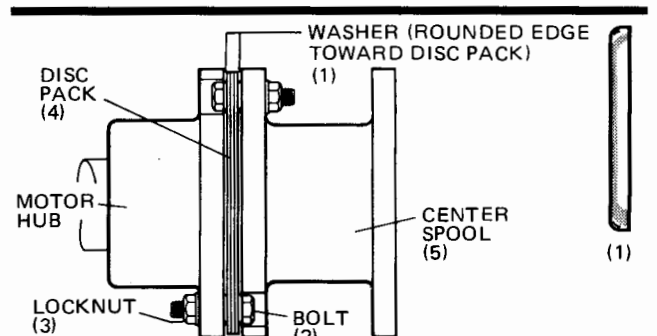

FIG. 6 – DISC PACK ASSEMBLED TO CENTER SPOOL
1. Assemble disc pack (do not rearrange discs, keep disc pack tied together until assembled) to center spool in the following order: (See Fig. 6).
- a. (4) bolts.
- b. (4) washers – assemble the rounded edge toward disc pack.
- d. Place (4) more washers over the ends of bolts with rounded edge against the disc pack.
- f. Place (4) locknuts on the bolts. Do not tighten locknuts.
2. Assemble the center spool with disc pack attached to the motor hub. (Refer to Fig. 6 and 7).